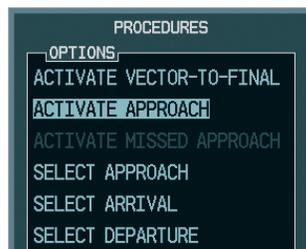

Figure 5-144 Manually Activate Approach
- b) Turn the large **FMS** Knob to highlight 'ACTIVATE APPROACH' as shown in Figure 5-144.